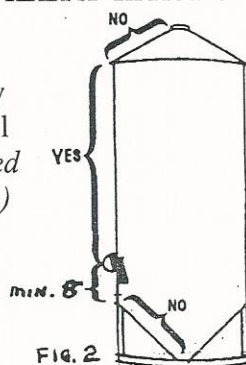

FIG. 2
The LevALERT Model 760 is designed to be installed at any position along a 90° vertical wall section. *Do Not Install on sloped areas of bin or within 8" (21 cm) of obstructions inside the bin (protruding nuts/bolts, ladders, wall stiffeners, etc.)* See Fig. 2
- Step 8) Fasten **Indicator Body** to binwall by driving the 2 **Self-Drilling Screws** into the binwall. Tighten screws evenly until tight. See Fig. 2